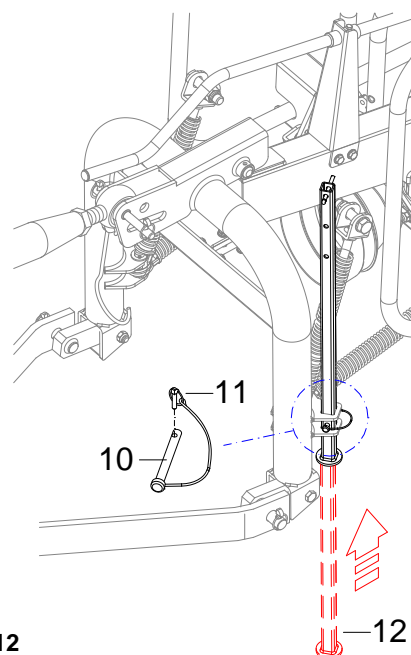

Fig.12
- inserts lift arms (9) in the appropriate housings (low pins 1 and 8) on the frame of windrow rotary rake (6) and blocks them, one by one, by using safety pins (2);
- (should it not be present on the tractor) places the adjustable tie-rod (3) in the appropriate housing of the tractor 3rd-point ("heavy pull" hole) and then fastens it to the tractor by using the provided pin;
- loosens or tightens the tie-rod body of the windrow rotary rake, leaving volute (4) free, until it coincides with the housing on equipment frame (7);
- fastens the tie-rod with pin (5), which subsequently blocks with safety pin (6);
Once performed the centring, the same operator lifts bearing foot (12 - fig.12) in a more suitable and safe position, both for the transport phase and for the subsequent working phase. For this lifting, the operator removes pin (11) to release locking pin (10) and then removes the latter from the foot holes. He lifts the foot up to the lowest hole, as indicated in the figure and tightens it with the locking pin and relative pin.